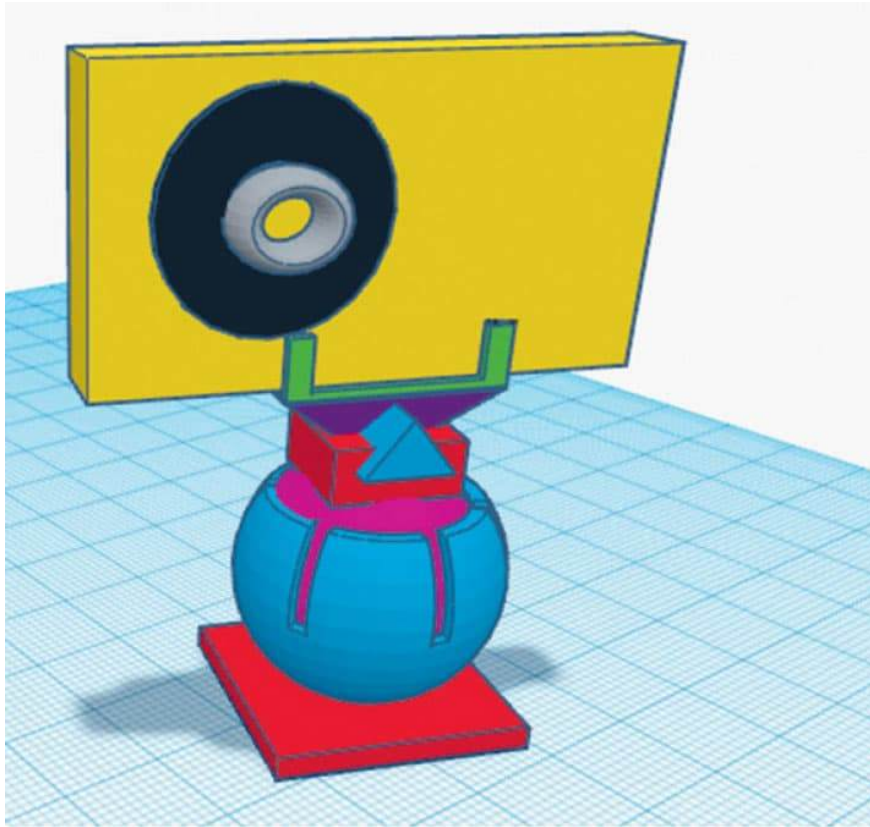

FIG. 8: *The assembled parts of the camera holder.*
- Test the product for its ability to mount and pivot a camera 360 degrees. Assemble as shown in fig. 8.